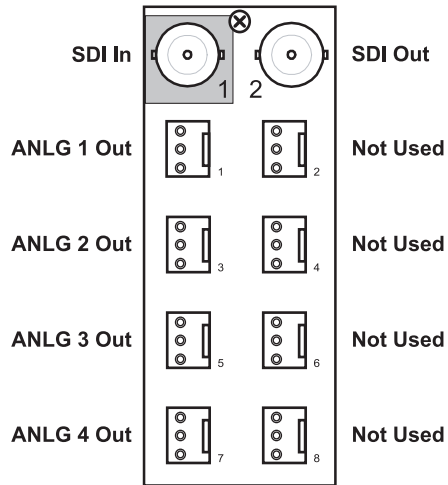

Figure 2.3 Cable Connections for the DMX-8259-4C
- **8310AR-034** Rear Module (R1C-8259) — Each card occupies one slot and provides one SDI Input, one SDI output, and four analog outputs. (**Figure 2.3**).
- **8320AR-034** Rear Module (R2C-8259) — Each card occupies two slots and provides one SDI Input, one SDI output, and four analog outputs. (**Figure 2.3**)